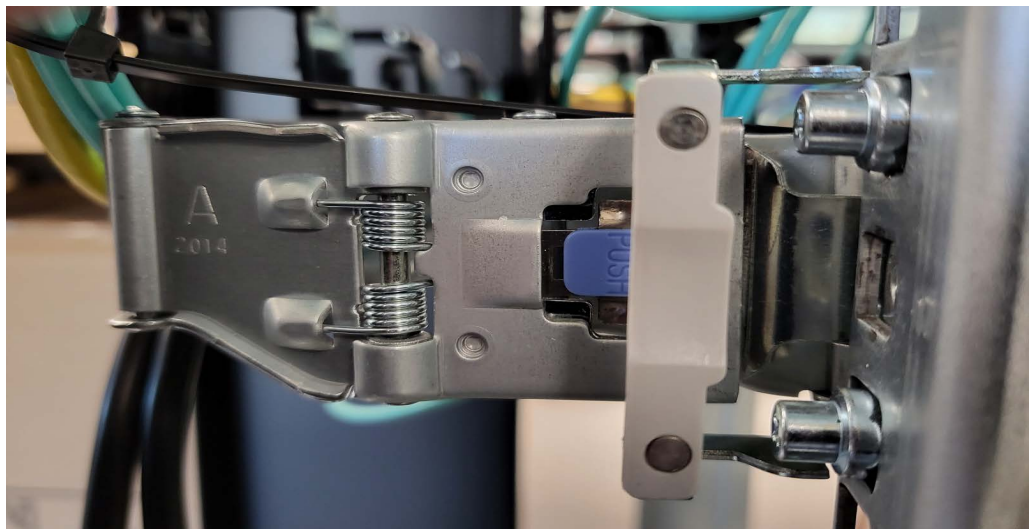

Figure 8.36 CMA outer arm correctly installed
5. Slide the outer arm connector onto the outer arm rail connector until the release button clicks. When connected correctly, the outer arm of the CMA appears as shown in Figure 8.36.